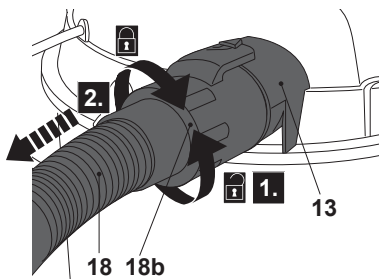

Fig. 17
- > Rotate the hose connector (18b) anticlockwise and pull it from the air outlet (13) to disconnect the hose (18) after use (Fig. 17).